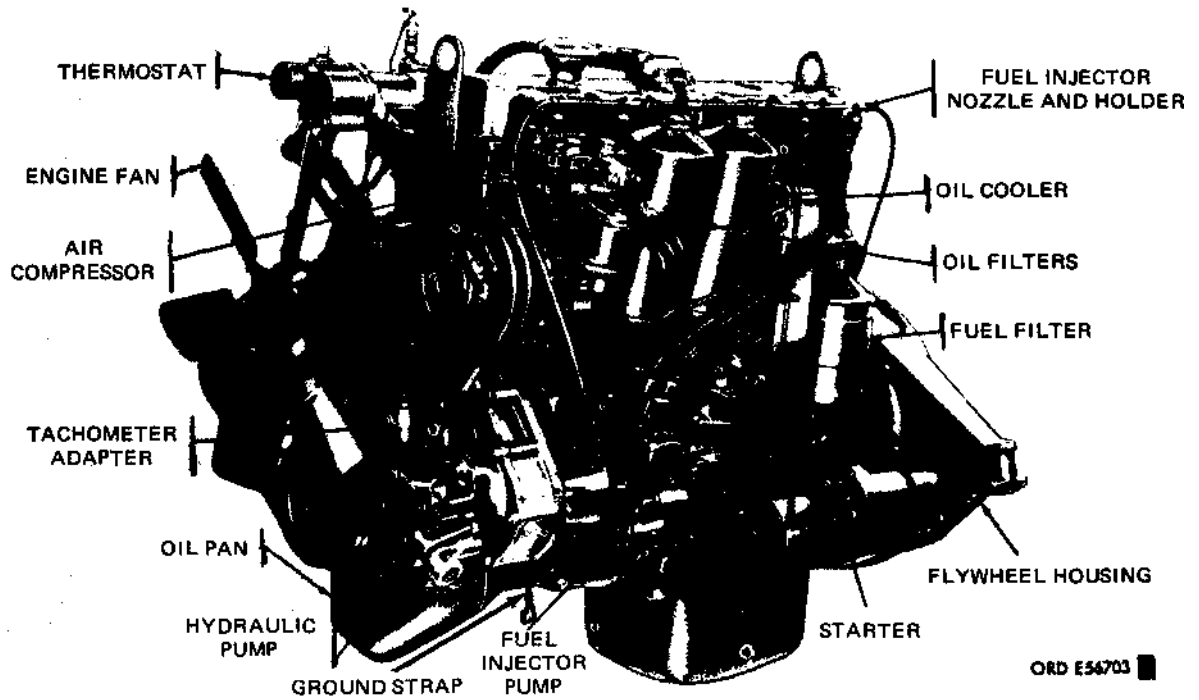

Figure 54.30. Left side of power plant (multifuel).
(6) Disconnect engine ground straps (figure 54.30). Remove bolt and starwasher securing engine ground strap to cowl.
(7) Remove brush guard and left and right headlight panels (paragraph 31).
(8) Remove left side panel (paragraph 31).
(9) Disconnect lines at power steering pump (paragraph 102.1).